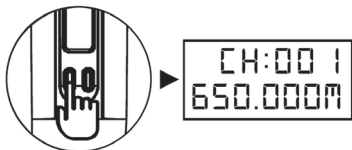

Figure 7
1. Use MENU button to go to the CHANNEL | FREQUENCY page (Fig 7).